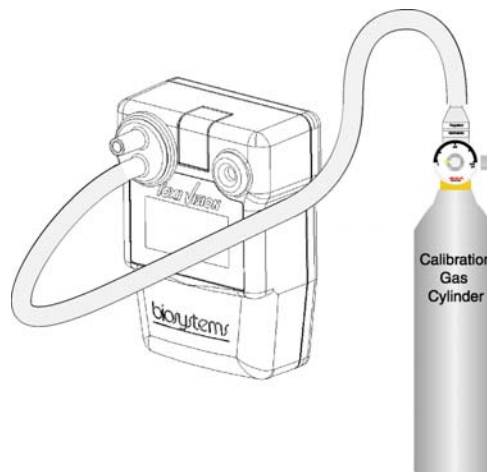

Figure 3.2: Proper bump-test/span calibration set-up
4. Apply the calibration gas as shown below in figure 3.2.
- Apply calibration gas as shown above in figure 3.2. Once calibration gas is detected, the readout will change to show the gas reading.
1. Apply “Zero Air” calibration gas to the instrument as shown above in figure 3.2 for at least 15 seconds or until the readings fully stabilize.